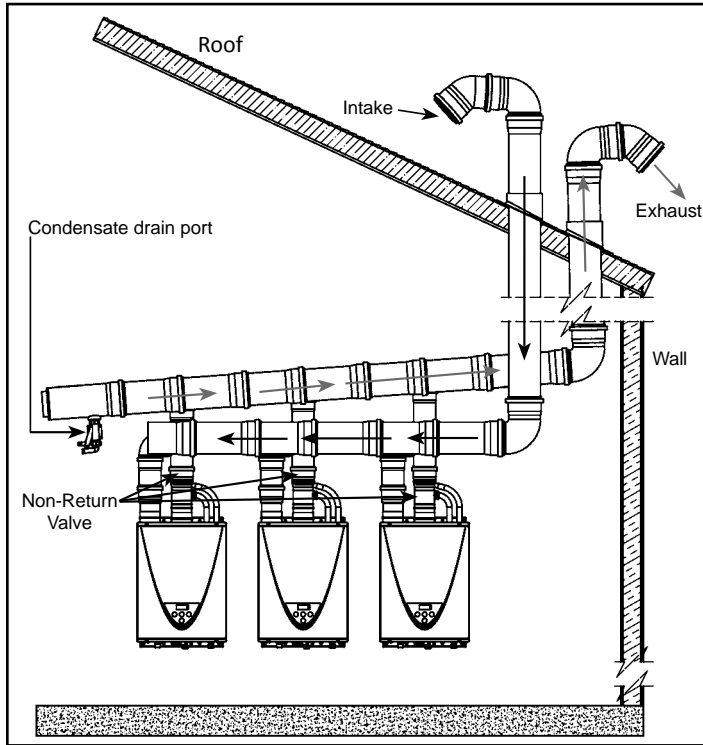
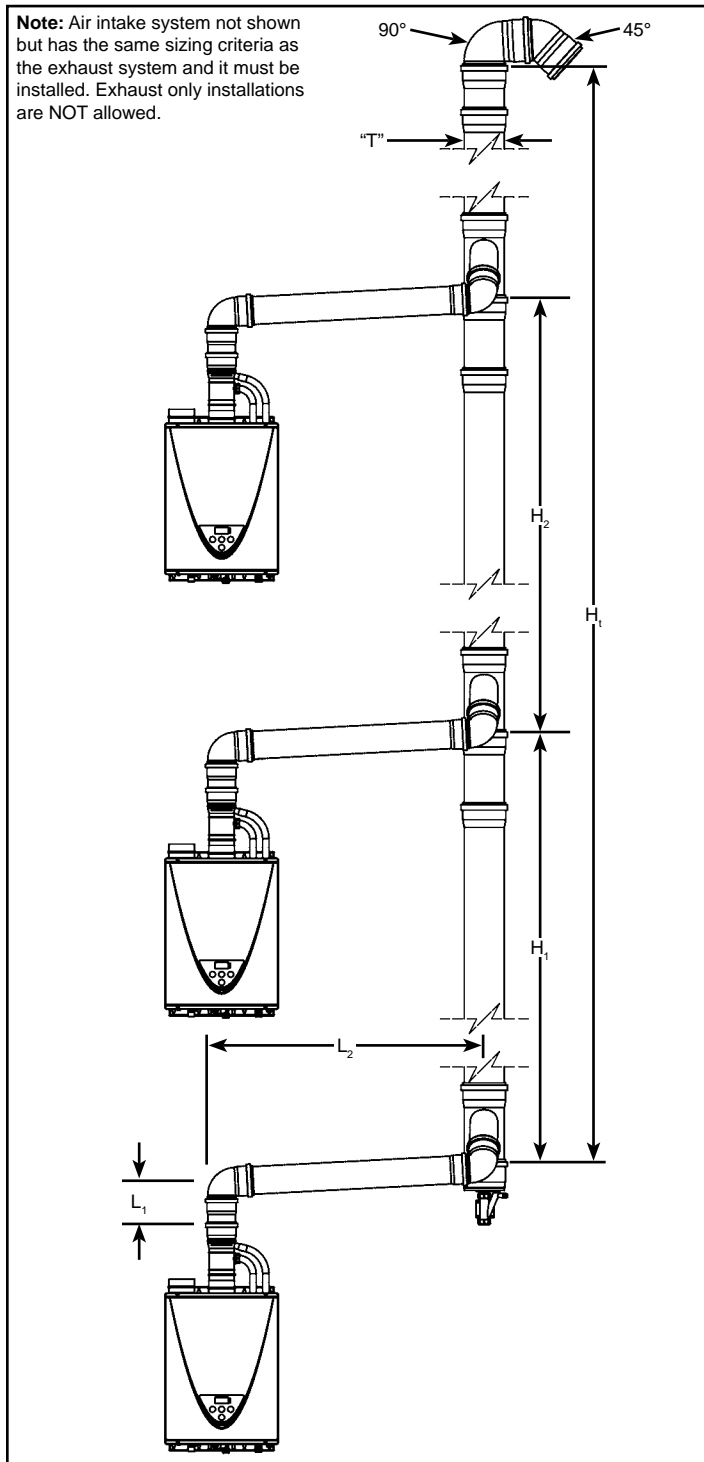

Figure 4. Typical Common-Vent Through The Roof Installation
Figure 11. Vent Dimensioning
- The terminations for the roof and air intake lines shall consist of one 90° elbow and one 45° elbow as shown in Figure 4 through Figure 11. The terminations may use two 90° elbows. Install screens with minimum 3/4 in. (19mm) mesh spacing in each termination to prevent foreign material from entering the vent system.
Restrictions for vertical common venting (intake and exhaust) are as follows (see Figure 11):